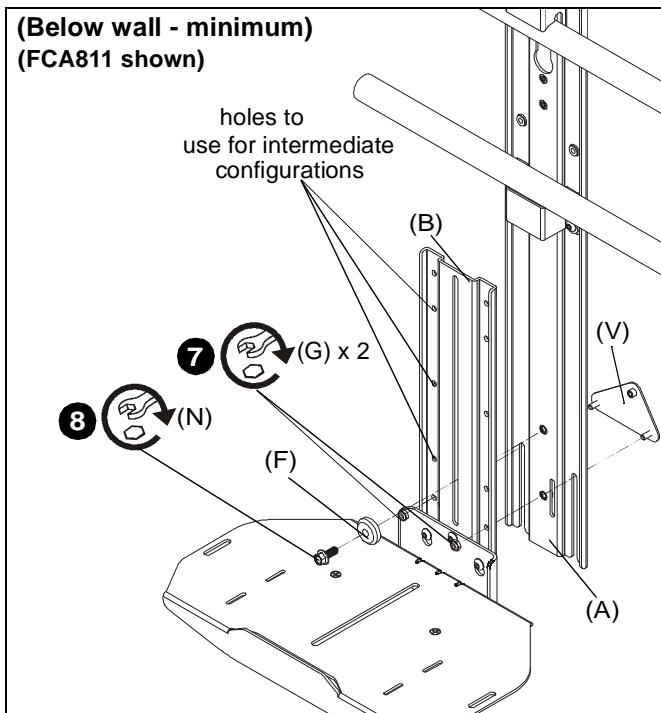

Figure 7
- (For minimum/intermediate extension) Use two #10-24 lock nuts (G) to secure upright bracket (A) to main bracket (B) and adapter plate (V). (See Figure 7)
- (For minimum/intermediate extension) Use 1/4-20 x 5/8" hex head flange bolt (N) and center washer (F) to secure upright bracket (A) to main bracket (B). (See Figure 7)